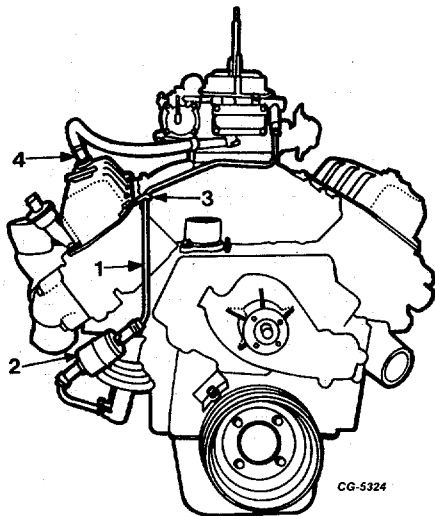

Fig. 31 Fuel Line Removal
- 30. Remove fuel line with bracket, reinforcement washer and fuel filter, Figure 31. Remove PCV valve and hose.